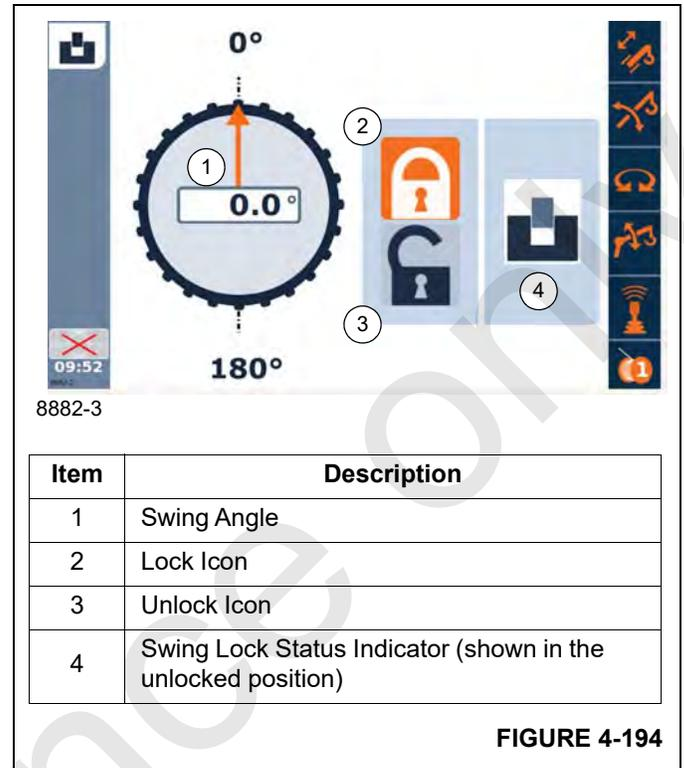

FIGURE 4-194
The 360° Superstructure Lock/Unlock function screen (Figure 4-194) is used to lock the superstructure in position any where throughout its 360° rotation.
The function screen (Figure 4-194) shows the current Swing Angle (1), the Lock and Unlock (2) and (3) Icons for operating the lock function, and the Swing Lock Status Indicator (4), (locked/unlocked).
In (Figure 4-194), the Swing Lock Status Indicator (4) shows the swing lock is in the unlocked position.
The current position of the locking mechanism is shown by different symbols: (Figure 4-194).
3. Using the Jog Dial or the Arrow Buttons on the Navigation Control Pad, select the Lock Icon (2), (Figure 4-194).
When the lock is engaged, the Locked Status Indicator (4), (Figure 4-194) will appear.
2. Using the Jog Dial or the Arrow Buttons on the Navigation Control Pad, select the Unlock Icon (3), (Figure 4-194).
When the lock is disengaged, the Unlock Status Indicator (4), (Figure 4-194) will appear.